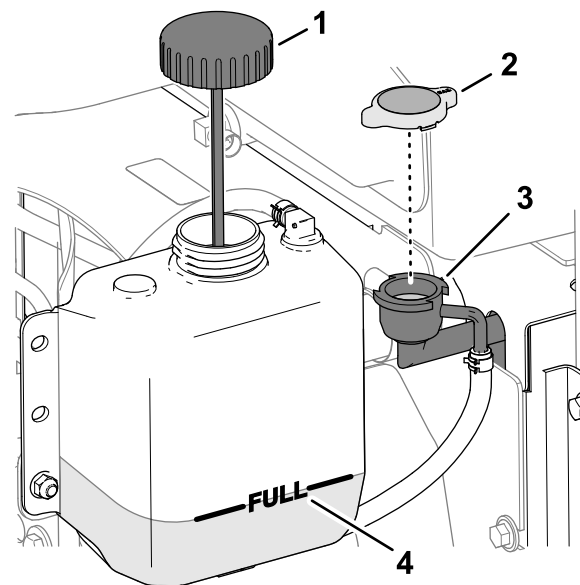

Figure 155
3. Carefully remove the radiator cap (Figure 155).
**Note:** The coolant level is correct if it is to the top of the filler neck of the radiator (Figure 155).